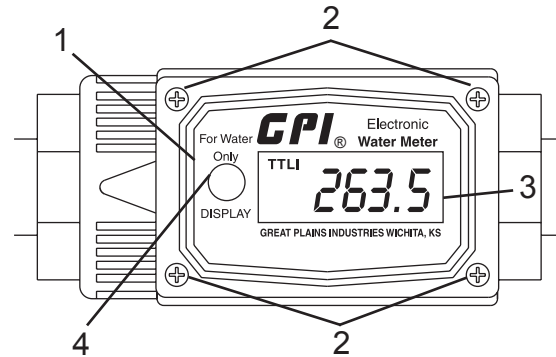

Figure 155
6. Activate the display by briefly pressing the DISPLAY button (Figure 155, Item 4).
7. Check the display (Figure 155, Item 3) to verify that it is operating normally. Re-seat the batteries if needed.
8. Install the meter faceplate (Figure 155, Item 1) on the meter body with four screws (Figure 155, Item 2).